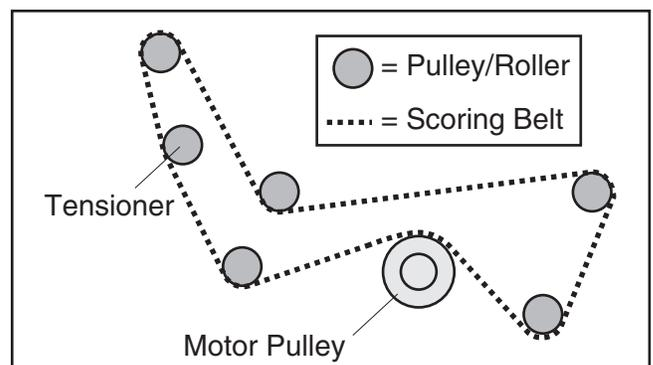

Figure 108. Scoring belt installation configuration.
5. Put the new scoring belt on the pulleys as shown in **Figure 108**, and push the tensioner against the scoring belt to take up any slack.